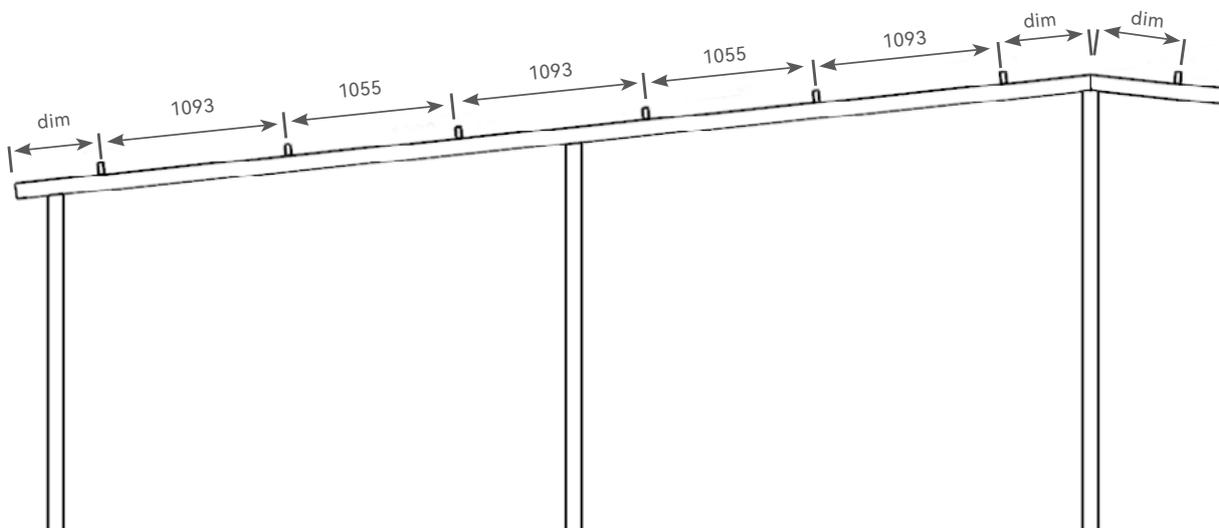

FIGURE 2
- The purlin spacing is installed from bottom to top according to the dimensions as shown in the drawing. The purlin connection should be firm, straight and have a smooth surface. When the lowest row of products extends out of the gable end, the distance of the lowest purlin from the lower end of the main keel is $\text{dim}=593\text{mm}$, and the remaining adjacent purlin spacing dimensions are $A=1055\text{mm}$. The actual installation deviation of adjacent purlin spacing is $\leq 5\text{mm}$, and the distance of the upper purlin from the ridge line of the steel structure is $\text{dim}=370\text{mm}$. cross section of steel structure installation (Figure 2)